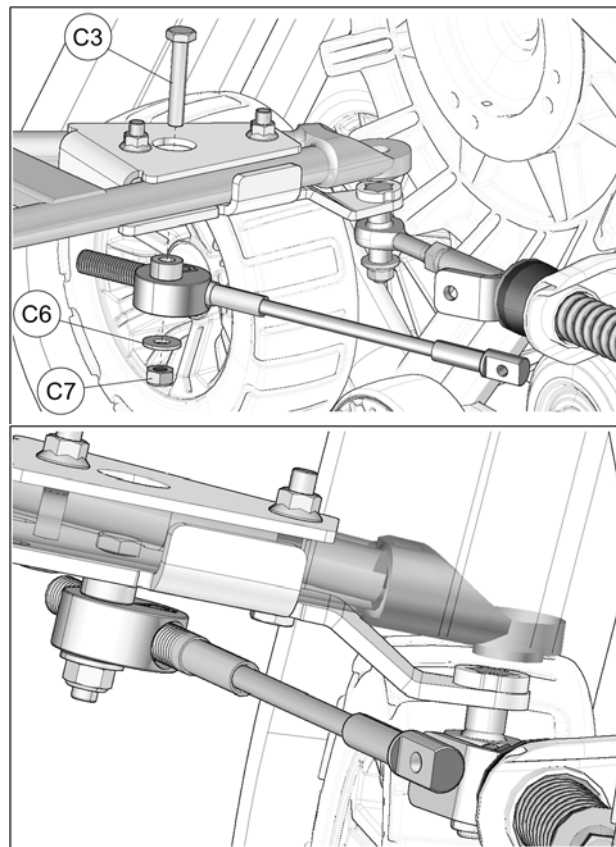

Fig. 25
13. Pass bolt (**C3**) down through opening in bracket cover and insert it in the anchor bracket's middle hole. Use supplied washer (**C6**) and nut (**C7**) to secure steering limiter assembly in place. Tighten nut to 50 N•m [37 lb•ft]. Refer to Fig. 25